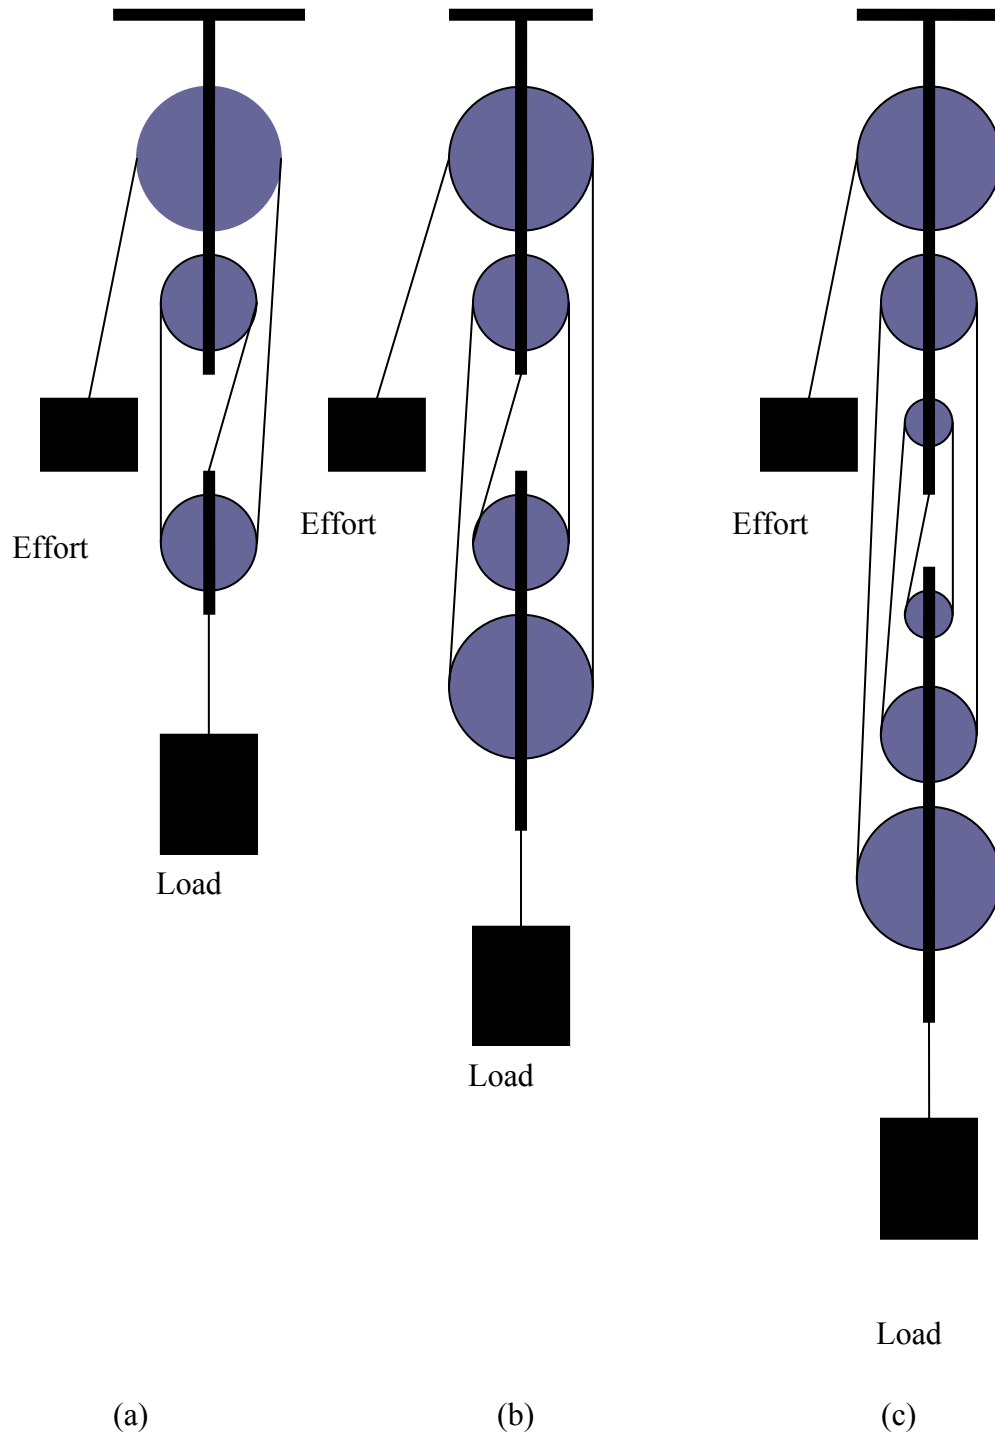

Figure 3 – Pulley Arrangements
7. Repeat steps 3 – 6 for other pulley arrangements as shown in figure 3.